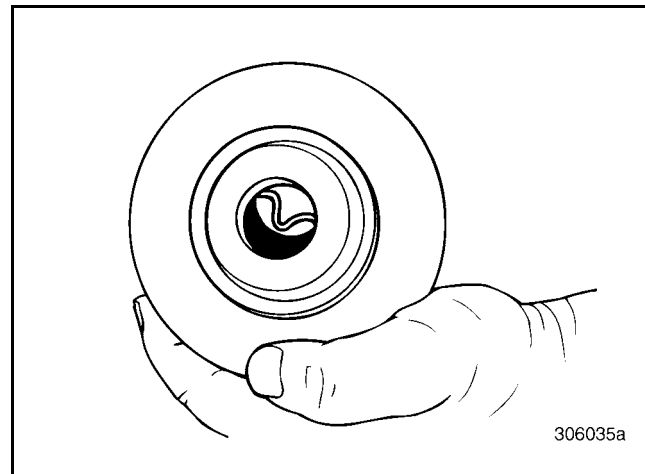
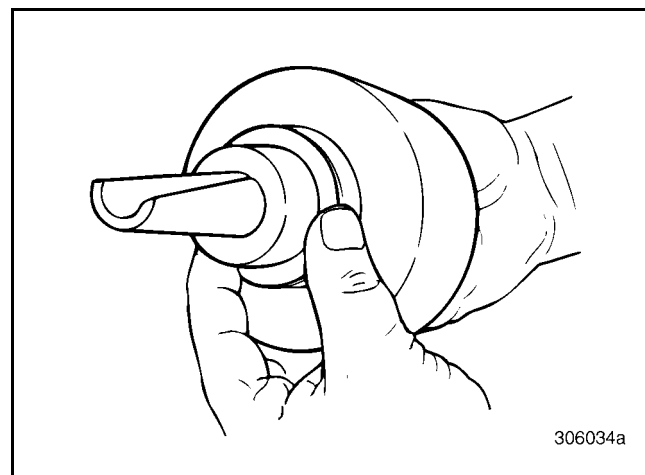

Figure 339 — Inserting Seal Insertion Tool
Figure 340 — Insertion Tool Fully Inserted
4. Align the relief of the insertion tool with the “V” fold of the seal. Gently insert the tool into the bore and push the tool all the way into the bore until the relief at the end of the tool is fully visible as shown in Figure 339 and Figure 340.